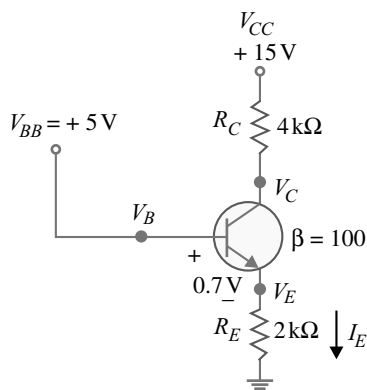

Fig. 6.83
18. For the circuit shown in Fig. 6.83, find (i) the state of the transistor and (ii) transistor power. [(i) Active (ii) 4.52 mW]